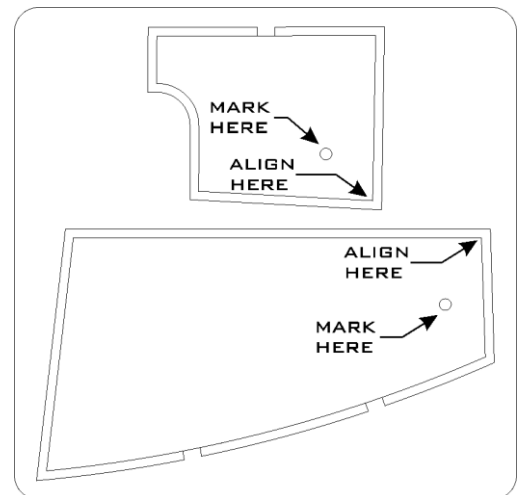

FIGURE 1
3. USING TEMPLATES INCLUDED IN PARTS KIT, PLACE THEM ON THE INSIDE OF YOUR INNER FAIRING (FIGURE 1), CAREFULLY AND ACCURATELY MARK HOLES USING AN AWL OR CENTER PUNCH. THE TEMPLATES ARE SYMMETRICAL AND ARE USED FOR BOTH SIDES. FLIP THEM OVER FOR USE ON OPPOSITE SIDE.